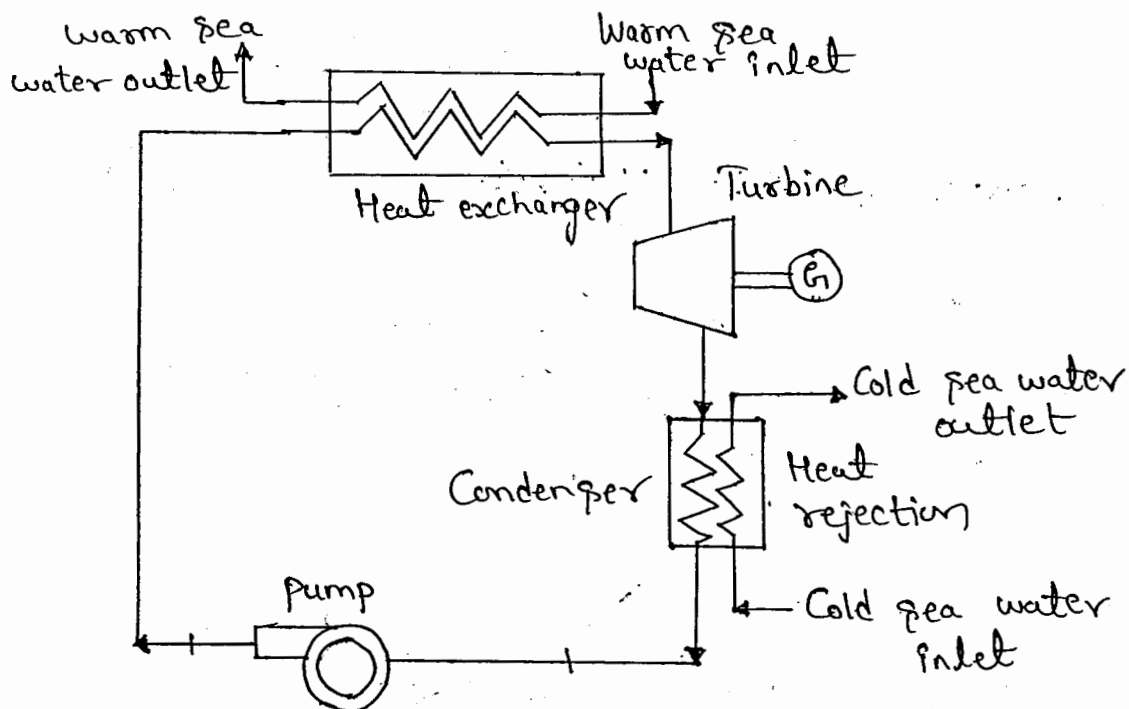

Figure 5. closed cycle OTEC plant.
- * The schematic of closed-cycle OTEC is shown in figure 5.